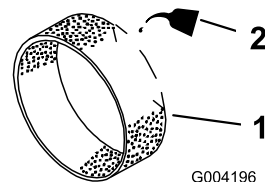

Figure 156
3. Put 3 to 6 cl (1 to 2 fl oz) of oil on the pre-filter (Figure 156).